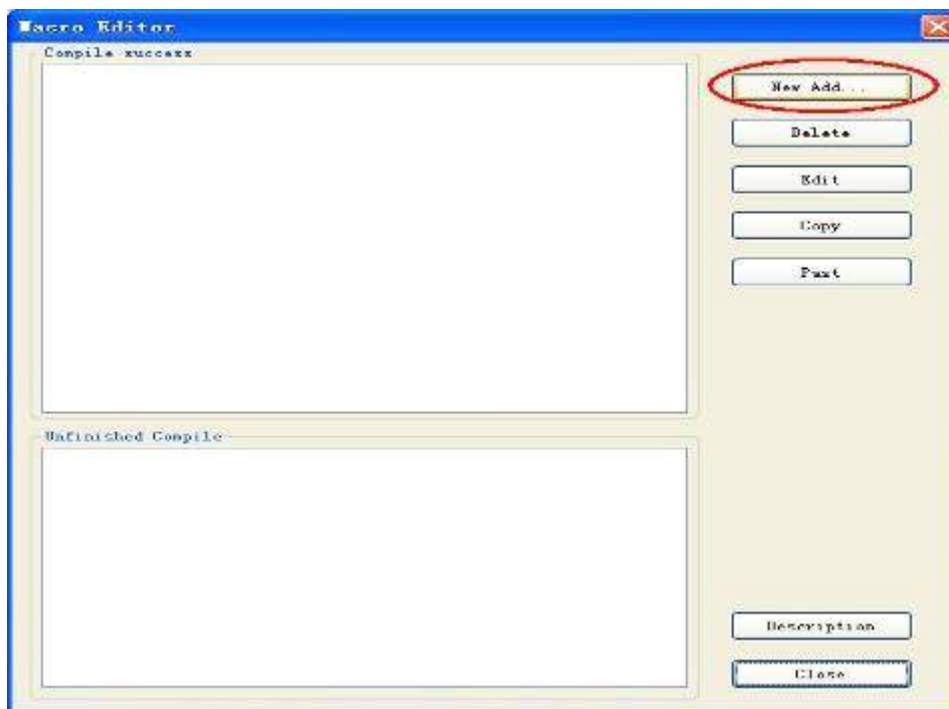

Figure 5-3 (Macro Editor)
Method 1: select "Setting (S) -> Macro" from the menu as shown in Figure 5-1 (macro menu), and pop up interface as shown in Figure 5-3 (macro editor).
Method 2: click shortcut button "Macro" as shown in Figure 5-2 (Macro button), and pop up interface as shown in Figure 5-3 (Macro Editor).
The functional controls are arranged in macro editor window as shown in Figure 5-3 (Macro Editor).